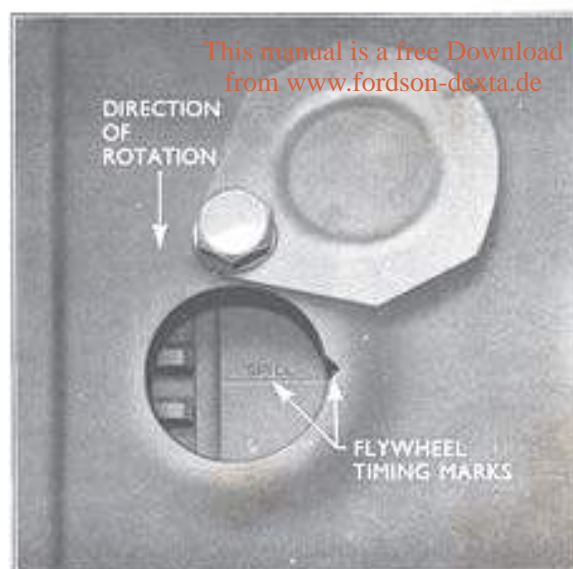

Fig. 6
1. Remove the flywheel inspection plate located on the left-hand side of the clutch housing and turn the engine crankshaft until the line marked "SPILL" on the flywheel corresponds with the notch in the clutch housing, with No. 1 piston on its compression stroke (see Fig. 6).